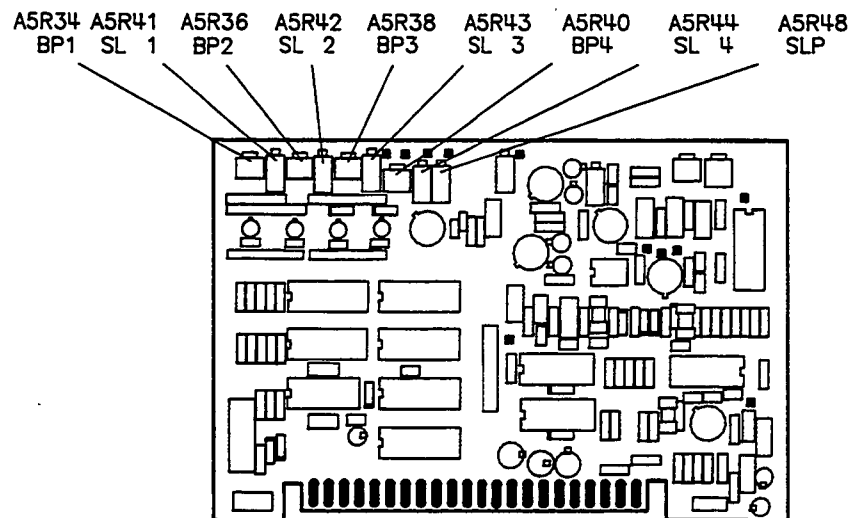

Figure 5-35. Internal Leveled Flatness Adjustment Location
4. Set A5R34, A5R36, A5R38, and A5R40 (BP1 – BP4) fully CW. Set A5R41 through A5R44 (SL1 – SL4) to mid-range. Refer to Figure 5-35.